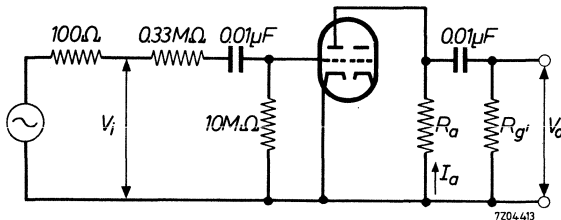

Fig. 3
### A.F. amplifier - circuit fig.3.
A.F. amplifier - circuit fig.3. (continued)